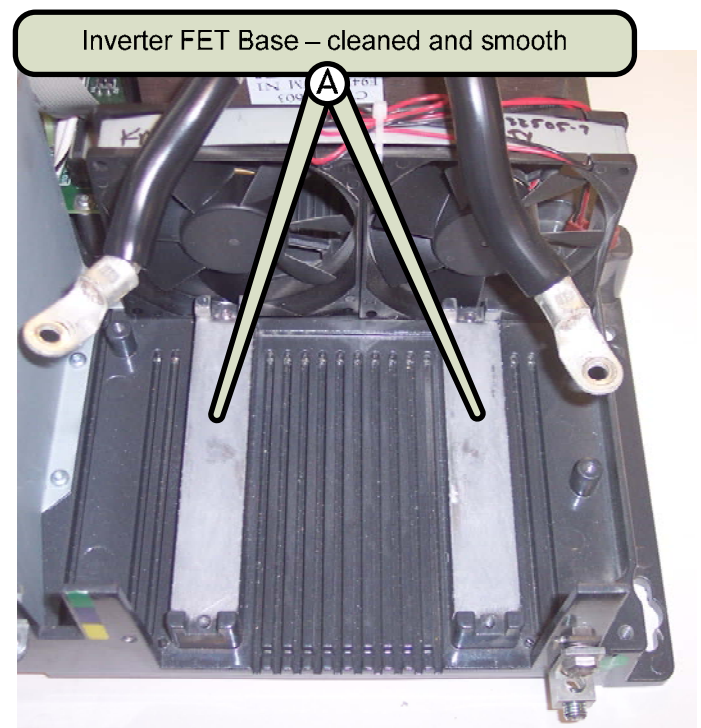

Figure 3, Inverter FET Base
3.1.8 After the FET board has been removed, remove any material (T-Gon™ insulator pads, tape, any metal particles, etc.) under the FET board or on the inverter base - the inverter FET baseplate should be clean (see figure 3).